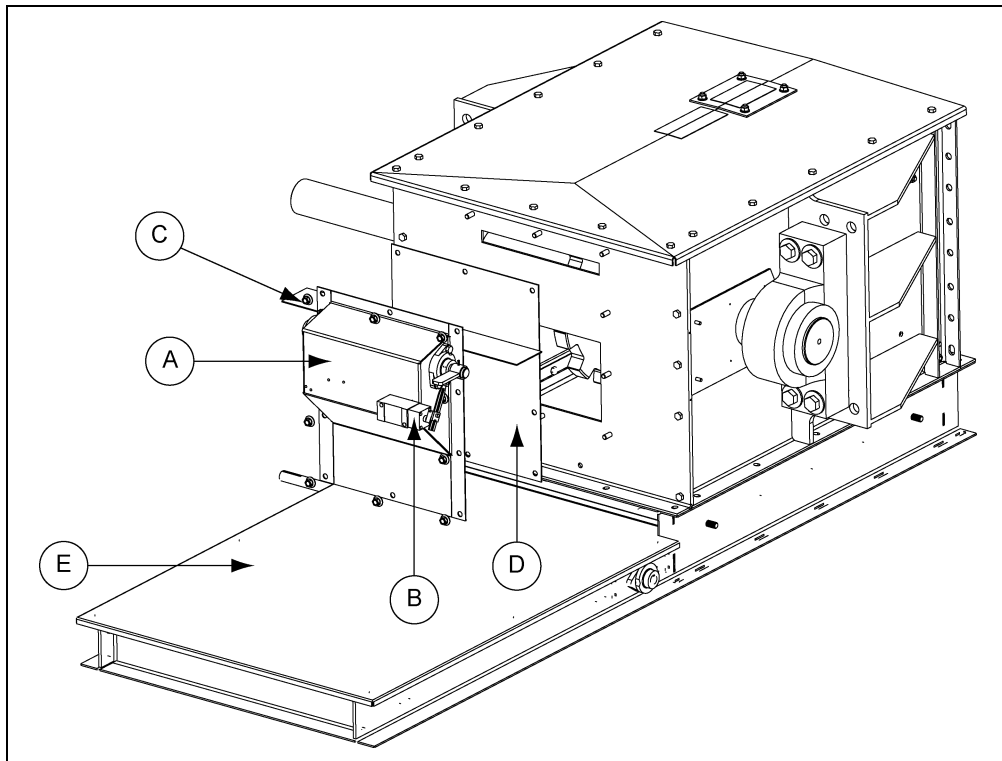

Figure 10C 20 Inch Tall Plug Relief Door with Head Gate
NOTE: The two (2) baffle plates (C) should be removed to install the plug relief door and will be re-installed after the main assembly of the plug relief door is installed. (See Figure 10C.) The tongue attached to the pivot shaft will rest lying on the upper thin slot in the end channel. During re-installation, the baffle plates should be spread to the widest coverage possible. Make sure to leave enough clearance to not impede the pivot of the baffle and pivot plate for the doors trigger operation.
3. Install the limit switch (B) by removing the appropriate knock-outs. (Refer to the manufacturers supplied instruction sheet for wiring limit switches.)